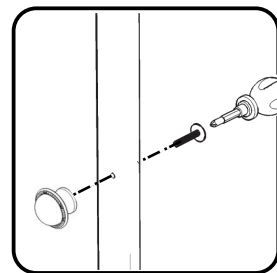

Figure 4
Attach Knobs to Doors (M) and (N) with Machine Screws. (See Figure 4)